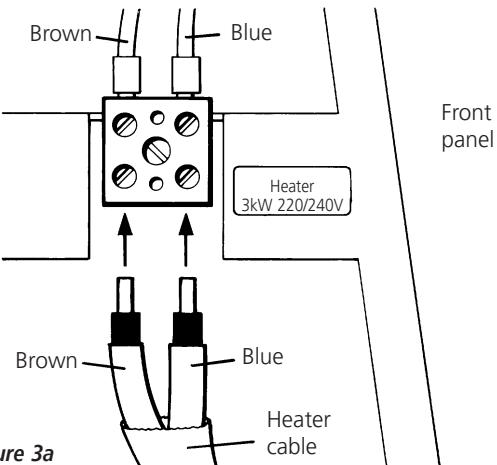

Figure 3a
6. Connect the heater cable as shown in **figure 3a**.